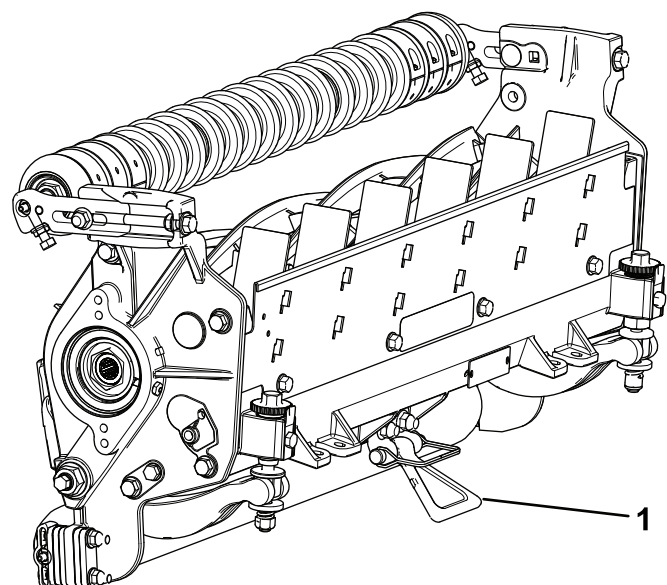

Figure 11
**Important:** Ensure that the nuts on the back end of the bedbar-adjusting screws are not resting on the work surface; use the kickstand (Figure 11).